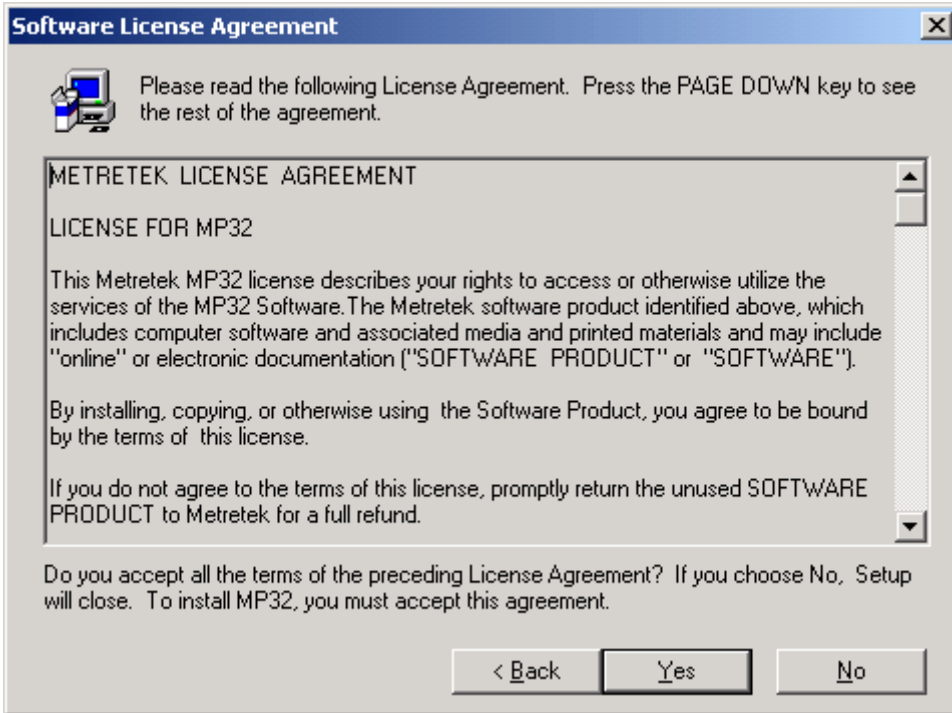

Figure 7 – MP32 Installation – Software License Agreement
3. Figure 7. Software License Agreement – Read before continuing then click<Yes> to continue the installation.